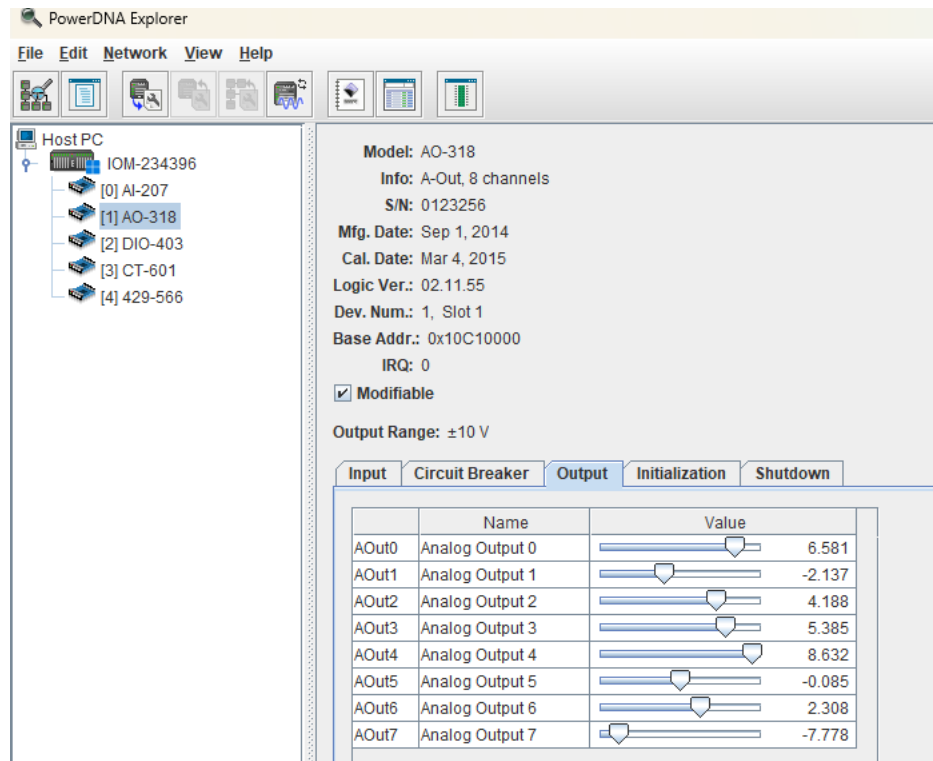

Figure 6-5. Example Writing Output Data using AO-318 Board
2. Click the **Output** tab (Figure 6-5).